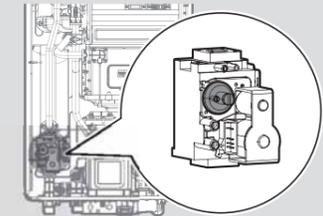

Figure 10
- c. Fully open a hot water fixture and set the water heater to operate at 1-stage MIN mode (refer to page 8). Measure the offset value at low fire and compare it to the values in Table 3. If the offset value is out of range, the gas valve set screw will need to be adjusted. If adjustment is necessary, locate the set screw as shown in Figure 10. Using a 5/32 in or 4 mm Allen wrench, turn the set screw no more than 1/4 turn clockwise to raise or counterclockwise to lower the offset value.